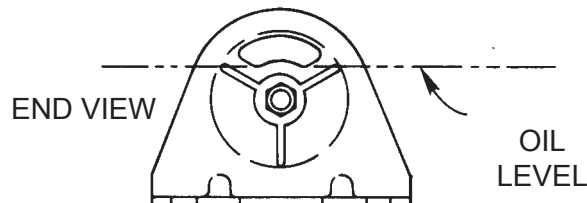

Figure 2
**For models with Reservoir Type B:** Remove the filler cap. The fluid level should come to the bottom edge of the filler hole when the pump is level and resting horizontally on its base and the cylinders are retracted (see Figure 2).